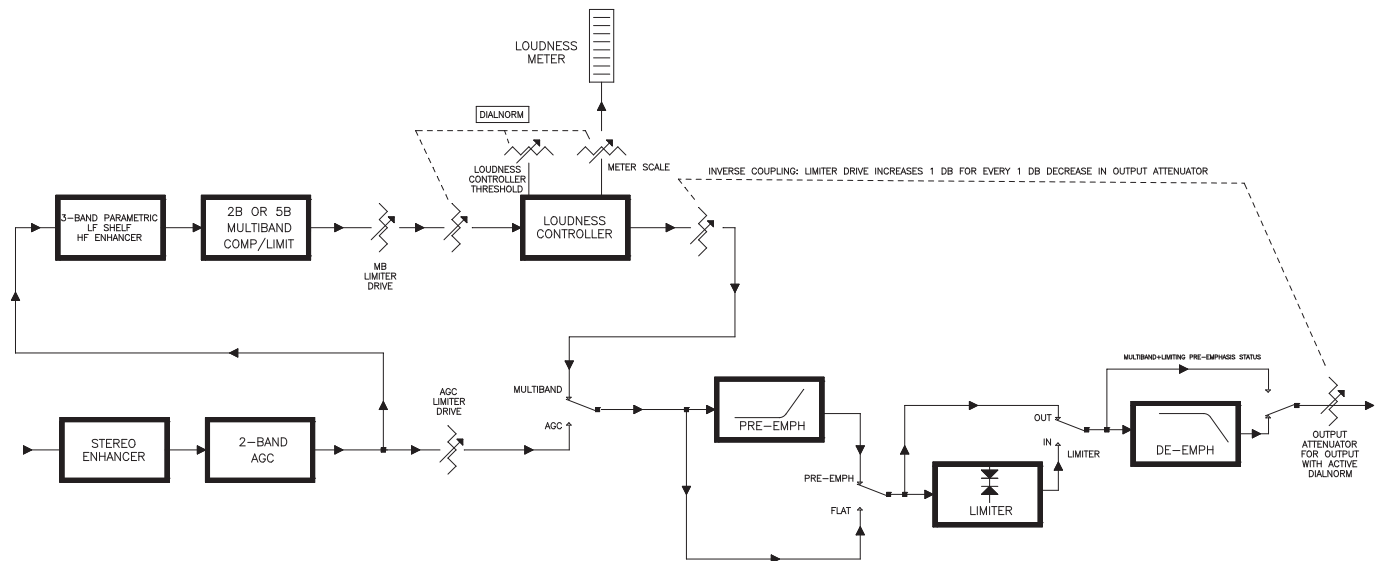

Figure 3-3: Simplified Block Diagram of Dialnorm Control
iter so that it effectively monitors the loudness at the limiter's output, not the loudness at the multiband compressor's output. It does so by scaling its sidechain drive by two gain factors: (1) the MB LIMIT DRIVE control and (2) the 1101's active DIALNORM value, which is determined either globally or by the active preset depending on the active preset's DIALNORM setting. (See Figure 3-3 on page 3-15 and *Low-IM Look-Ahead Limiter* on page 3-13.) The DIALNORM value is the same as the "target loudness" as measured by an ITU-R BS.1770-2 loudness meter in units of LKFS (ATSC Rec. A/85) or LUFS (EBU Rec. R128). Your OPTIMOD-PC contains a BS.1770-2 meter with an integration time of 10 seconds. To comply with these standards, DIALNORM is customarily set to  $-24$  in the United States and  $-23$  in the EU.